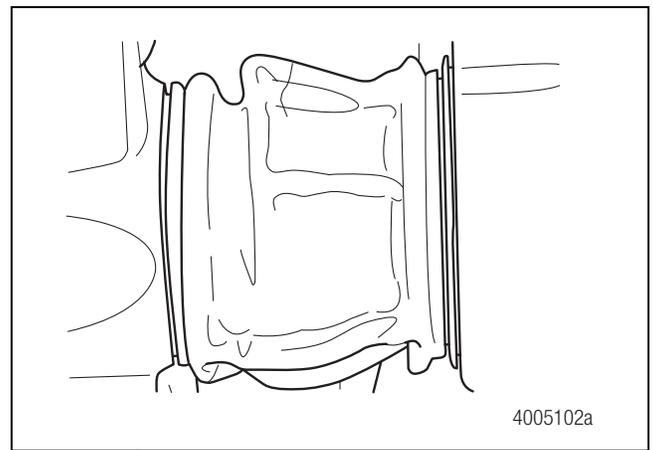

Figure 6.59
6. Check the housing assembly to verify that it slides by hand on the slide pins. Take care not to trap your fingers while you check the sliding action of the housing assembly. Slide the housing assembly back and forth several times to check for smooth movement on the slide pins. The boots are correctly installed if they collapse from the pressure changes within the slide pin mechanism. Figure 6.59.